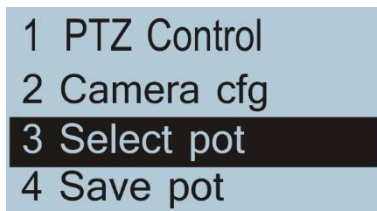

Figure 7.16
5. Enter the "Select pot" interface according to Figure 7.16, and select the preset point corresponding to the panoramic camera.